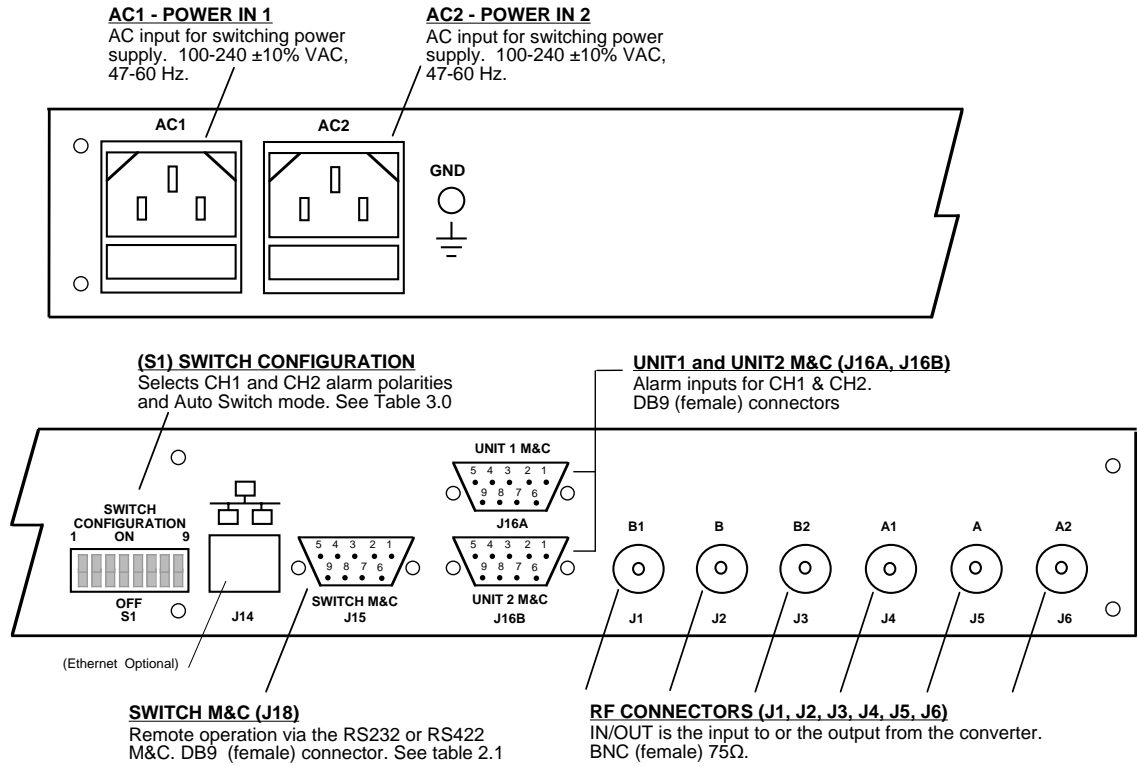

FIGURE 2.2 1582-125L Switch Rear Panel Inputs/Outputs
Figure 2.2 shows the input and output connectors on the rear panel.
4. Connect to signals on the MONITORS AND CONTROLS (DB9 connectors), J16A & J16B, as desired (see Figure 2.2, Table 2.1).